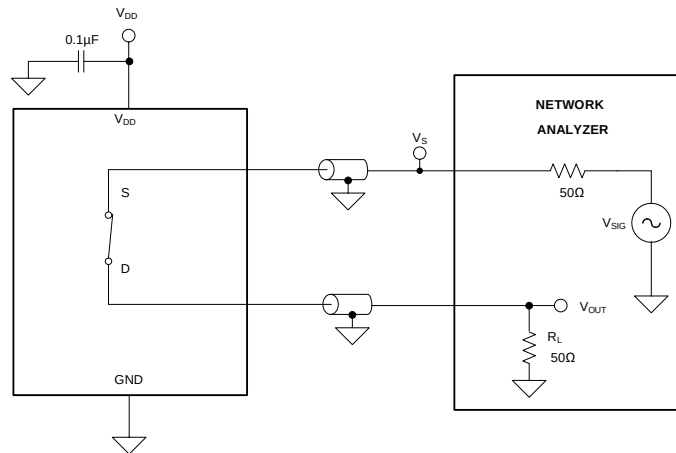

Figure 7. Bandwidth measurement setup
Bandwidth is defined as the range of frequencies that are attenuated by less than 3 dB when the input is applied to the source pin (S) of an on-channel, and the output is measured at the drain pin (D) of the device. The characteristic impedance, Z_0 , for the measurement is 50 Ω . Figure 7 shows the setup used to measure bandwidth.